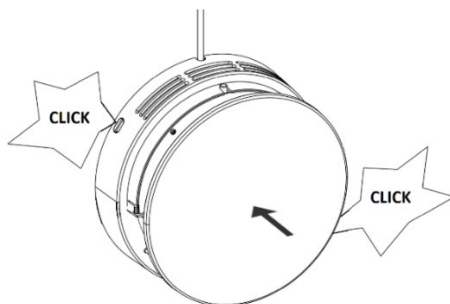

Figure 35 - The ventilation unit is placed back in the wall
8. Place the ventilation unit back in the wall, and carefully press it all the way in until the spring catches make a click, see Figure 35 below.